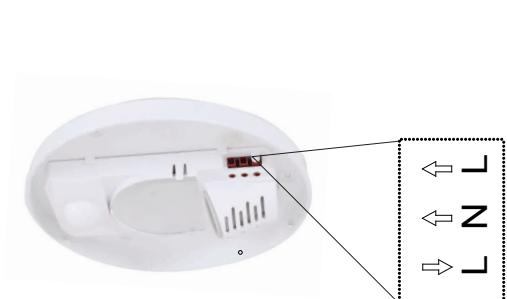

Fig.6
- Step6 Put the power line through the line hole to connect on the wiring (as Fig.6)